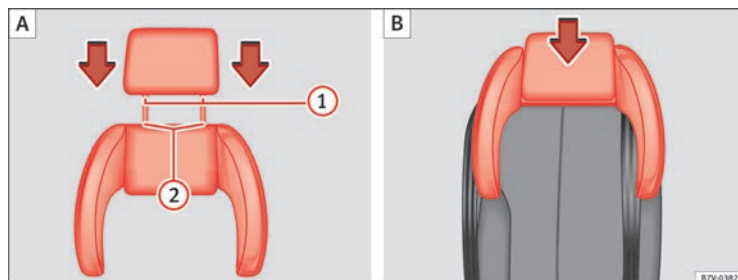

Fig. 30 Integrated child seats, position the head restraint over the side head restraint (A) and fit into place (B)
- Insert the guide rods \Rightarrow Fig. 30 **1** of the head restraint into the guides on the side head restraint **2**.